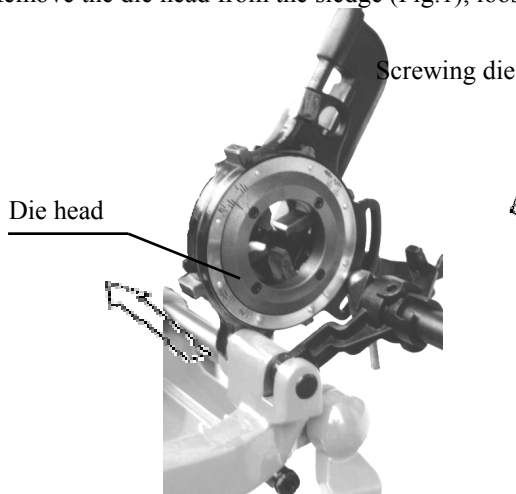

Fig. 1
2. Remove the die head from the sledge (Fig.1), loosen the nut of the handle, turn the justify the scratch A-A.